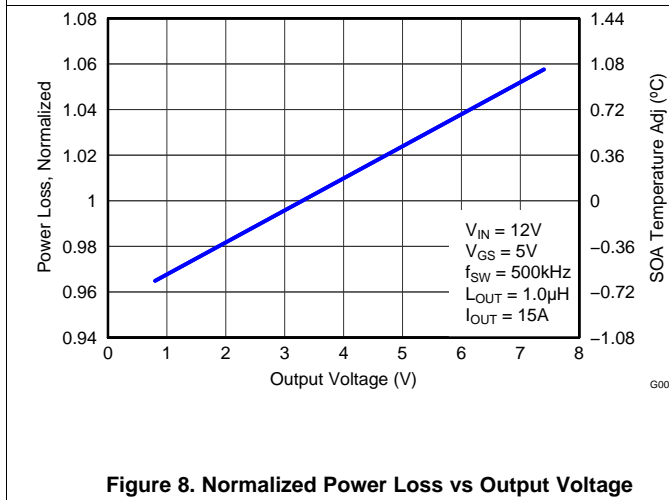

Figure 8. Normalized Power Loss vs Output Voltage
- Normalized power loss for output voltage  $\approx$  0.96 (Figure 8)
- SOA adjustment for output voltage  $\approx$  - 0.2°C (Figure 8)